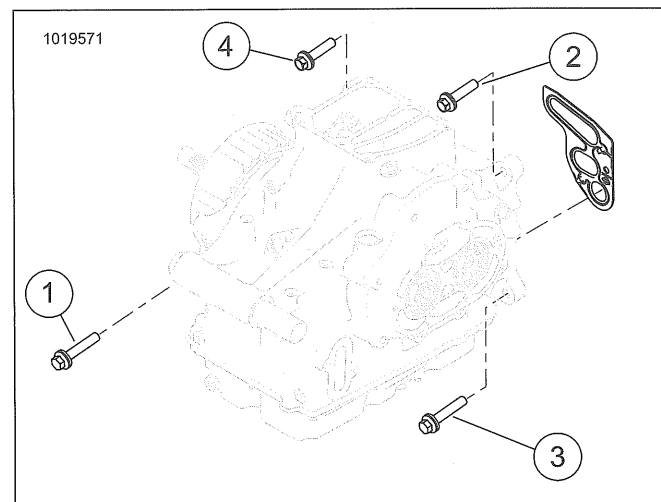

Figure 5-78. Transmission Housing to Crankcase Tightening Sequence
- b. See Figure 5-78. Tighten bolts in the sequence shown to.